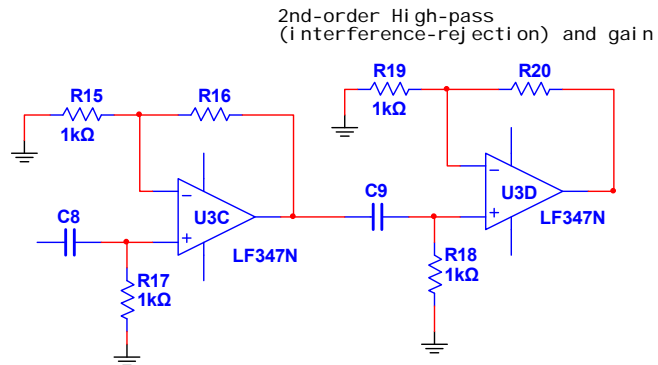

Figure 5-3 – 2nd-order high-pass/gain stage.
- Add the next two stages as shown in Figure 5-3. Use capacitor values equal to or greater than the values you calculated in the pre-lab section for C8/C9. For the gain resistors R16 and R20, you could again use 1k $\Omega$  resistors if your transmitter is in close proximity.